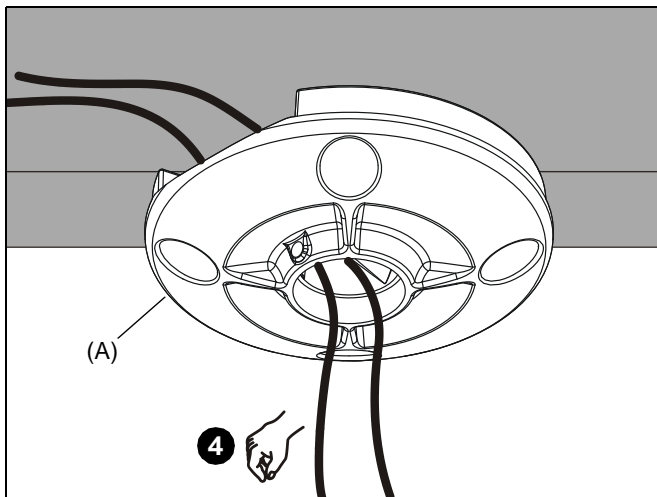

Figure 3
4. Route cables through channel in plate (A) (See Figure 3).